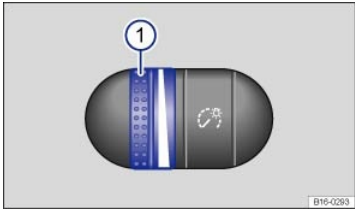

Fig. 79 To the left of the steering wheel: Thumbwheel to adjust instrument panel lighting ①.
You can adjust the brightness of the instrument cluster and switch lighting when the lights are on by turning the thumbwheel ⇒ Fig. 79①.